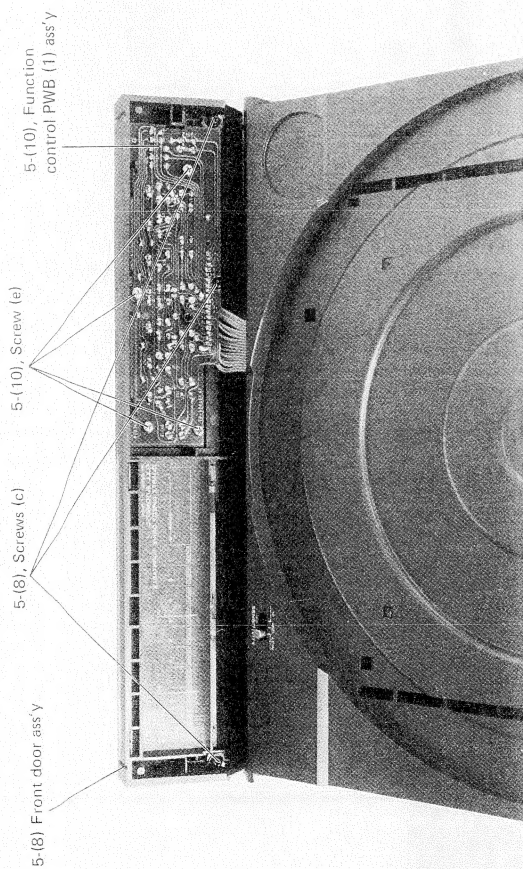

Fig. 14
- (8) Front door ass'y. (See fig. 14)
- (10) Function control PWB (1) ass'y (See fig. 14)